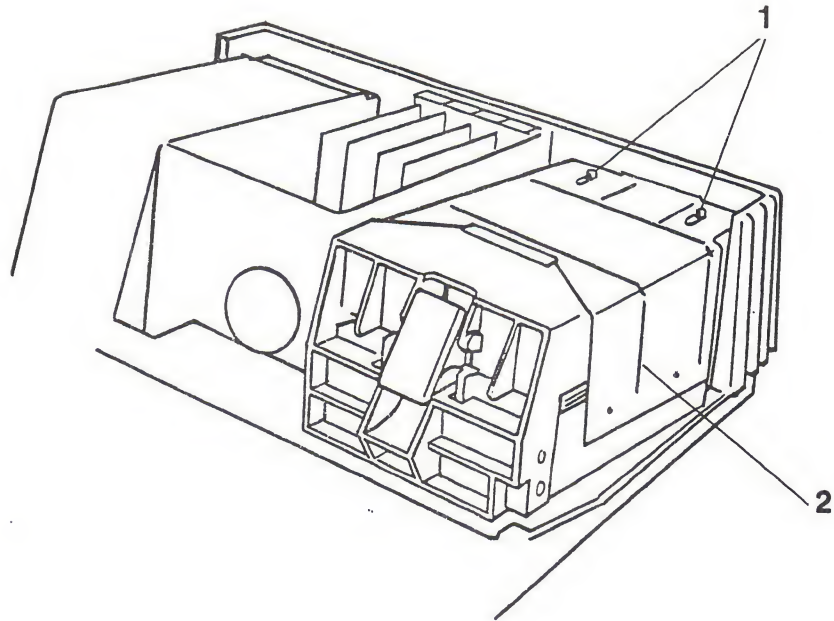

FIGURE 4
2. To get to the analog board you must first remove the disk assembly shield. To do this, use a flat blade screwdriver to slide the two Tinnerman retaining clips on the disk assembly shield forward. (See Figure 4, Item 1).
3. Remove the disk assembly shield by flexing the side out (See Figure 4, Item 2) and lifting up on the shield.